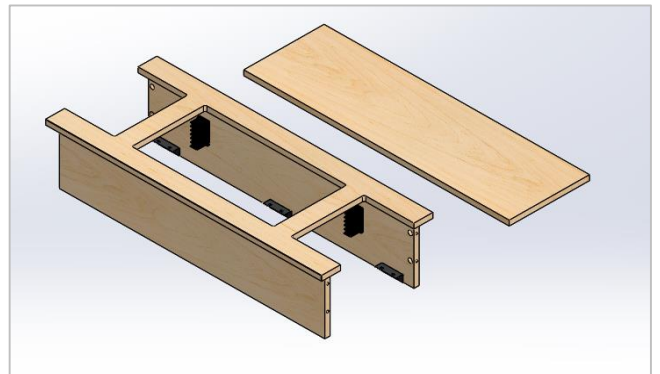

Figure 9
6. Bottom panel of trough is removable for IT access. (Figure 9)